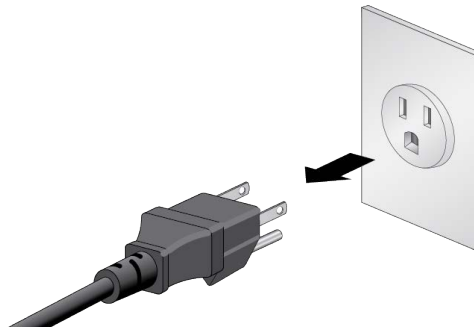

Figure 128. Powering Off the AT-PWR600 or AT-PWR600R AC Power Supply
- ❑ For the AT-PWR600 or AT-PWR600R AC Power Supply, disconnect the AC power cords from the AC power sources. Refer to Figure 128.